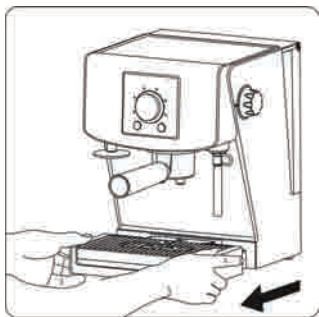

Fig. 12
- 13.4. Put the machine upside down and take off the filter grid from the filter head (4) unscrewing the grid with the use of an appropriate screwdriver (Fig. 12).